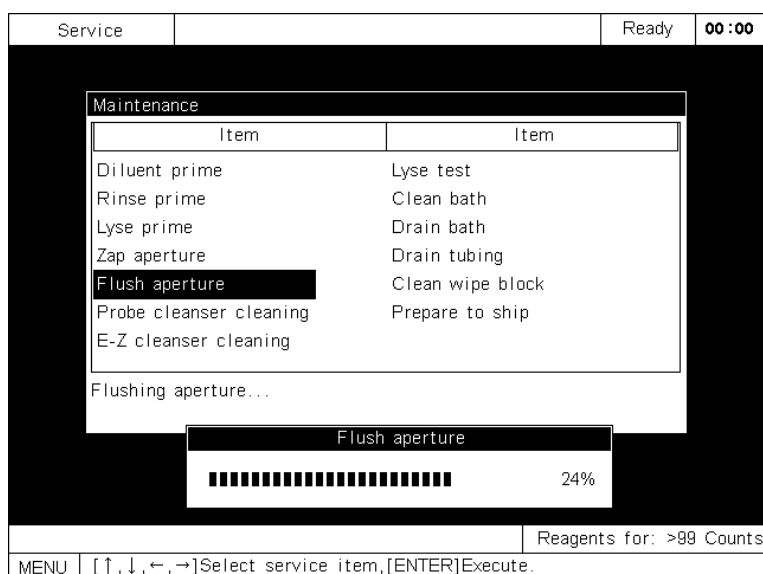

Figure 8-7 Flushing aperture
- Press [ENTER] to flush the aperture and the flushing progress will be displayed at the bottom of the screen, as Figure 8-7 shows.